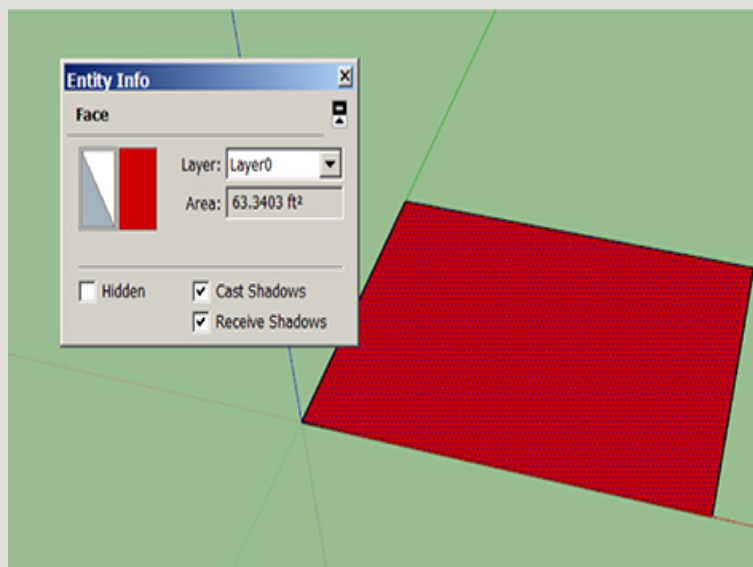

Figure 5-8 The Entity Info box shows that the front side is facing up.
- Verify face orientation by opening the Entity Info box. At the top are two panels. The left is the front face; the right is the back face. The left should be white/gray. These panels are especially helpful when looking at painted surfaces. Figure 5-8 shows that the front is facing up, as it should be. If the red color appears in the left panel, select the face, right-click and choose Reverse Faces.. Then, if appropriate, paint the front face and restore the back face's default color.